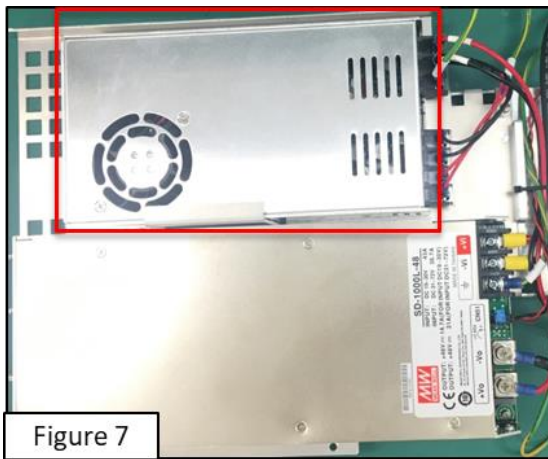

Figure 7
- Click **EXIT** to go back to Windows (as shown in Figure 7).